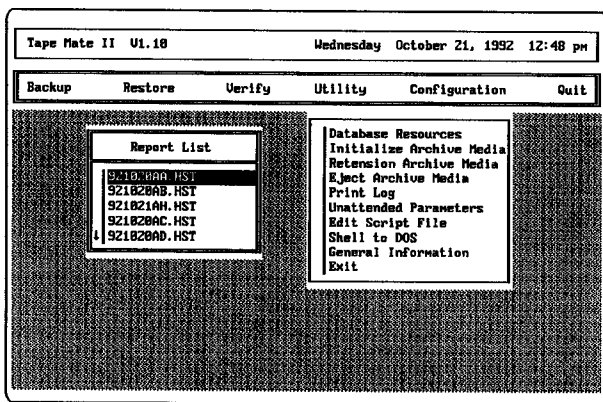

Figure 73 Report List Dialog Box
1. Select the **Print Log** operation from the Utility menu, and a dialog box containing a list of all the log history files, created when the database was enabled, displays on screen. See *Figure 73*.